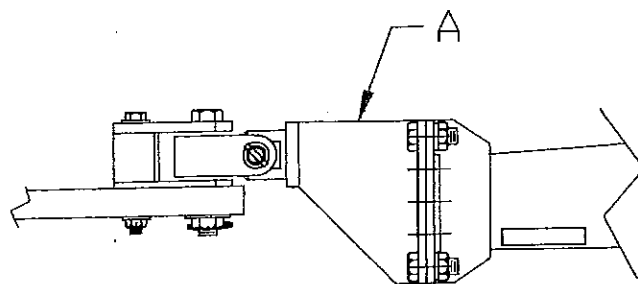

FIGURE 15 - FRONT HITCH ADJUSTMENT
Set the front hitch of harvester (see Figure 15) so maximum lift for transport is maintained and still allows lowering into ground as far as necessary. Move the bolt-on hitch (A) to best position.